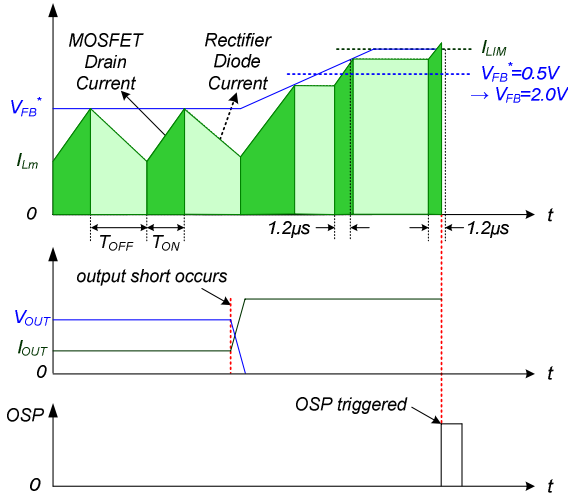

Figure 22. Output Short Protection
4.3. Output Short Protection (OSP): If the output is shorted, steep current with extremely high di/dt can flow through the SenseFET during the minimum turn-on time. Such a steep current brings high-voltage stress on drain of SenseFET when turned off. To protect the device from such an abnormal condition, OSP is included. It is comprised of detecting V_{FB} and SenseFET turn-on time. When the V_{FB} is higher than 2V and the SenseFET turn-on time is lower than $1.2\mu s$, the FSGM0565R recognizes this condition as an abnormal error and shuts down PWM switching until V_{CC} reaches V_{START} again. An abnormal condition output short is shown in Figure 22.